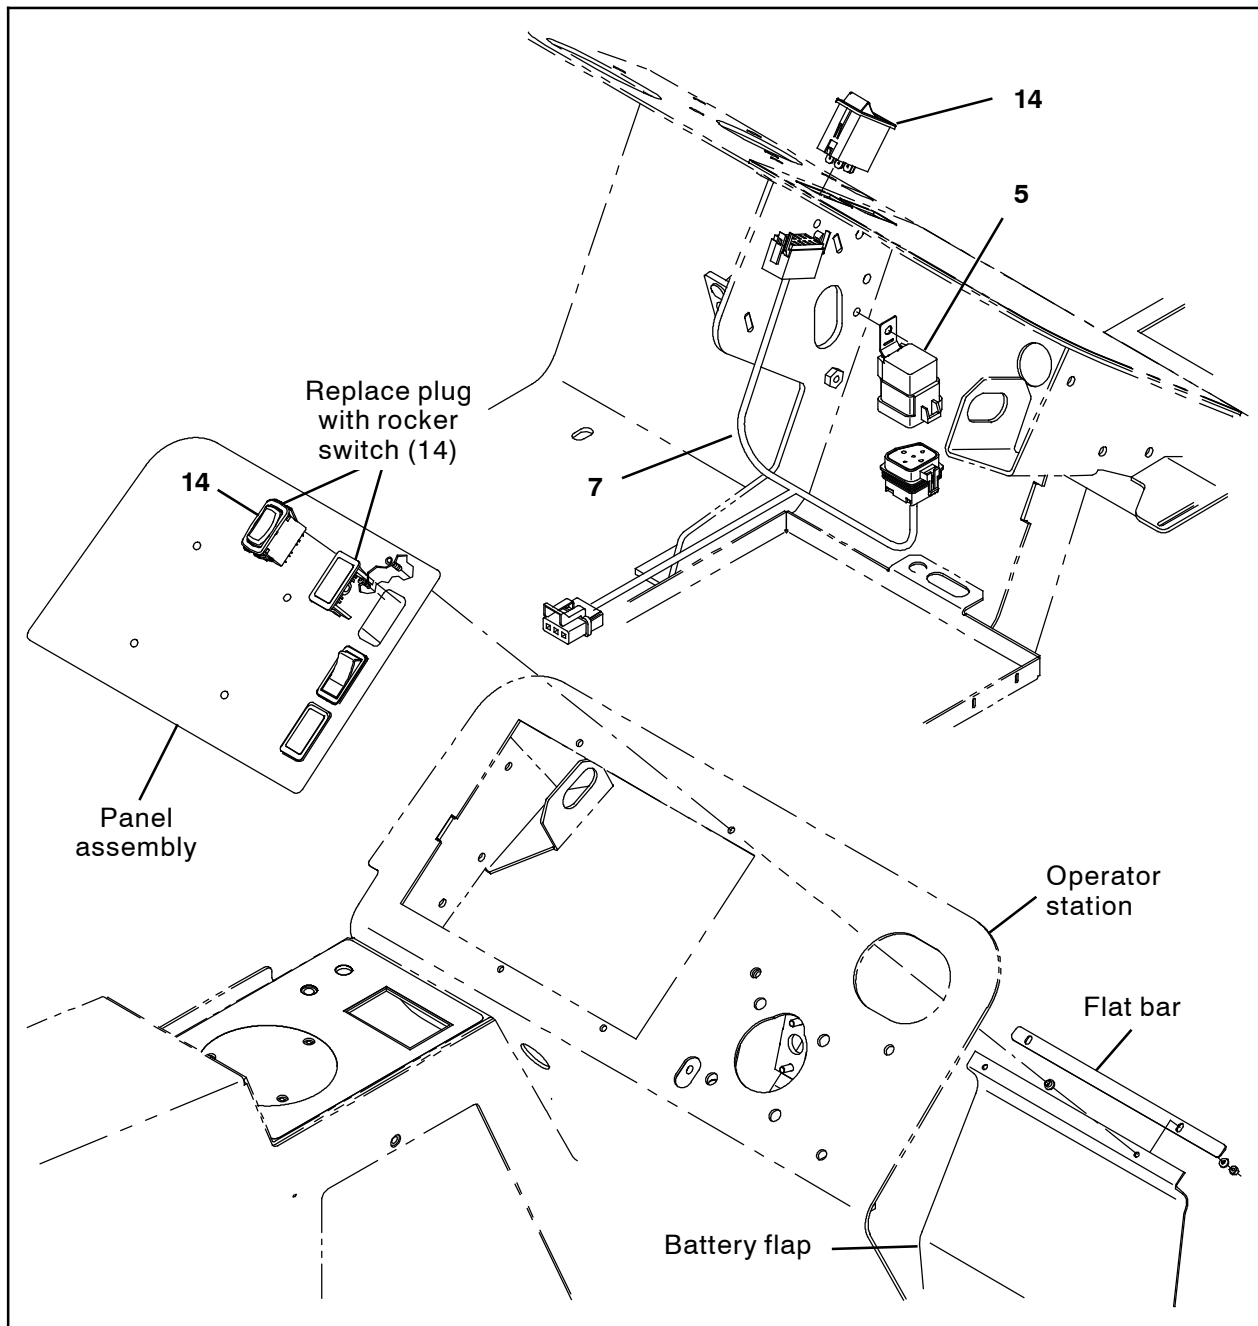
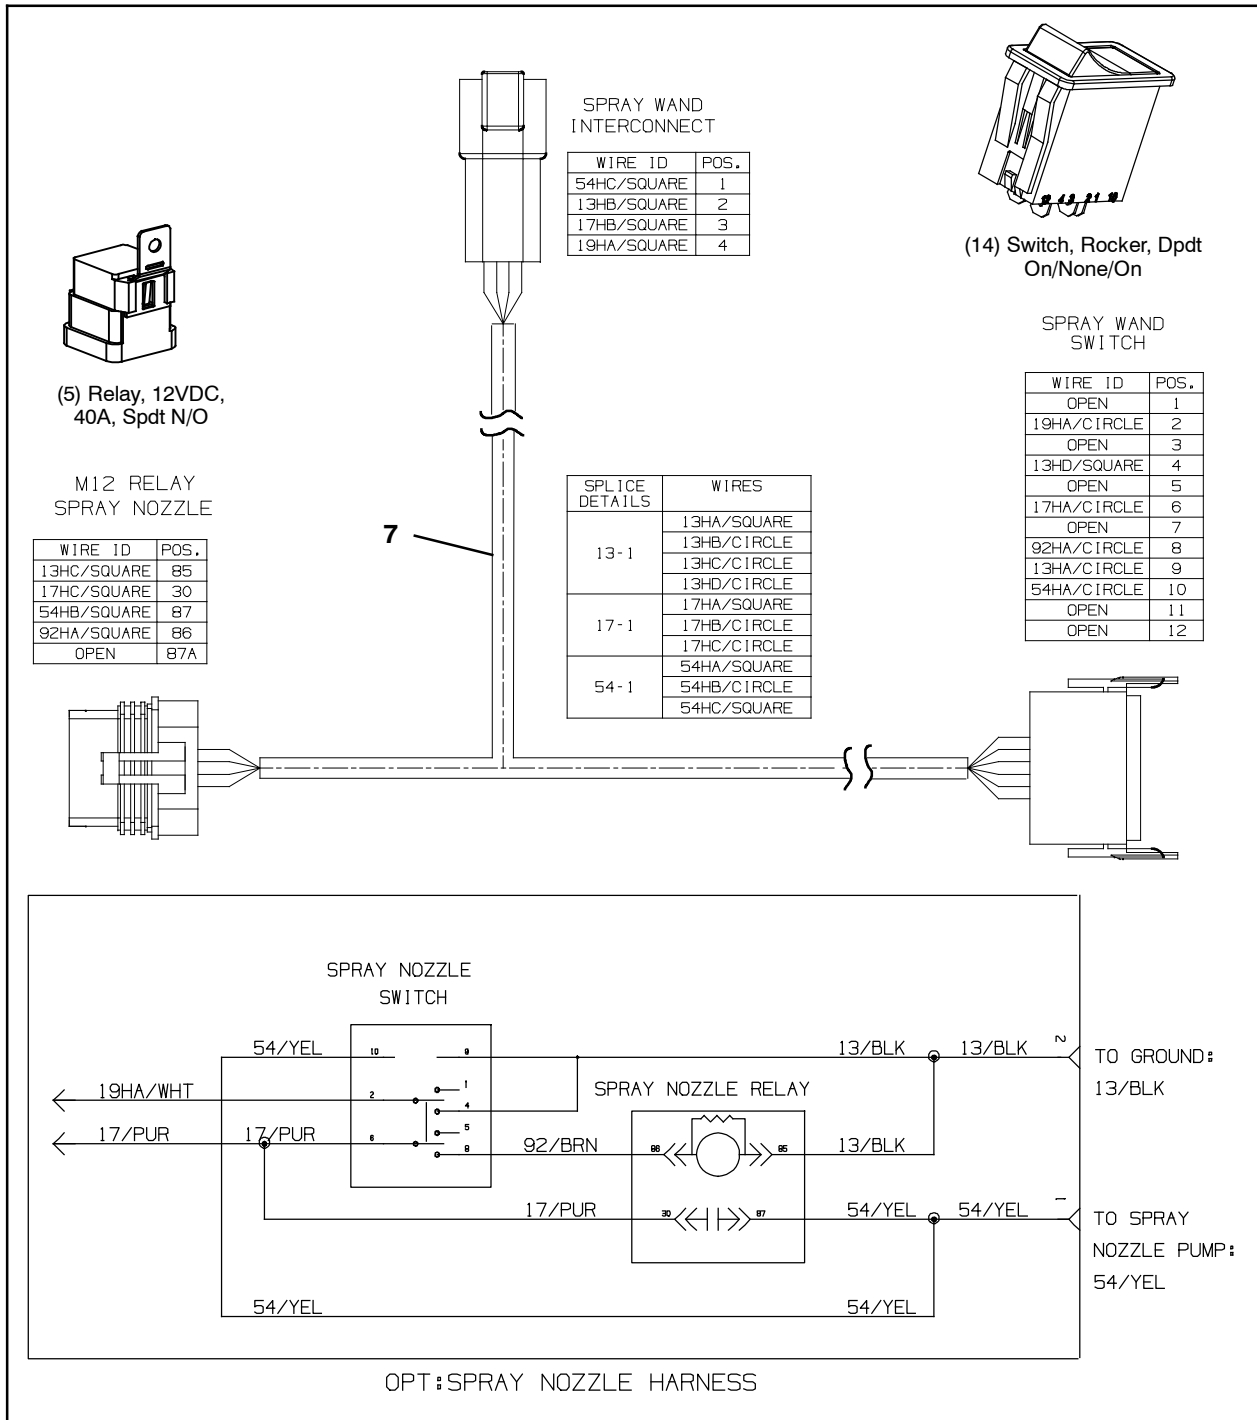

FIG. 3
FIG. 4
1. Use a hex screw to install the 12VDC relay (5) onto the machine. (Fig. 3)
2. Connect the spray nozzle harness (7) to the 12VDC relay (5). (Fig. 3/Fig. 4)
3. Remove the plug from the panel assembly. Discard the plug. (Fig. 3)
4. Insert the rocker switch (14) into the panel assembly. (Fig. 3)
5. Connect the spray nozzle harness (7) to the rocker switch (14). (Fig. 3/Fig. 4)
6. Reinstall the panel assembly, battery flap, and flat bar onto the operator station if these items were removed. (Fig. 3)
7. Connect the spray nozzle harness (7) to the main wire harness. (Fig. 4)